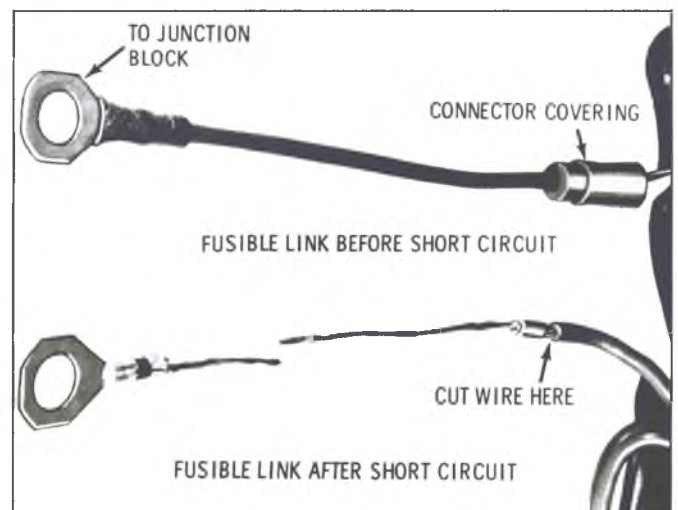

Fig. 53—Fusible Link
### FUSIBLE LINK (FIG. 53)
3. Cut harness directly behind connector to remove damaged fusible link (fig. 53).